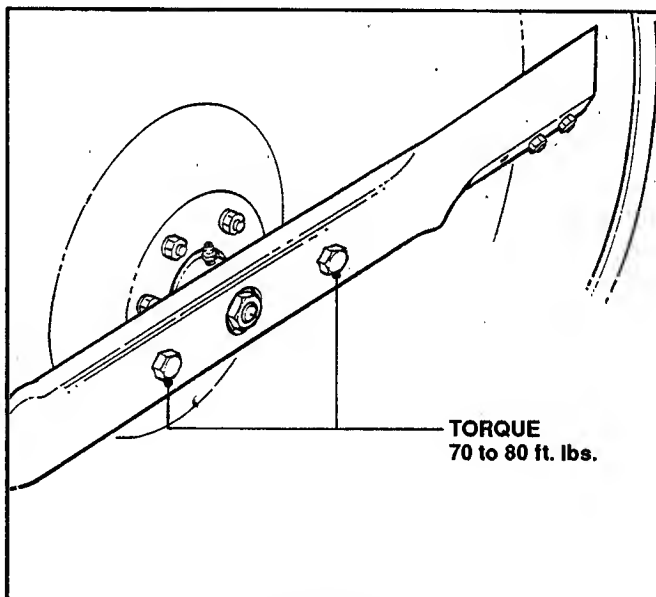

FIGURE 3.2
4. Check torque of blade mounting bolts. As necessary torque to 45-55 ft. lbs. See Figure 3.2.